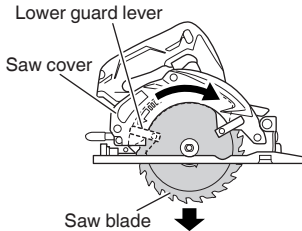

Fig. 28
- (2) Depress the lock lever, lock the spindle, and remove the Hex. bolt and washer (B) with the hex. bar wrench.
- (3) While holding the lower guard lever to keep the lower guard fully retracted into the saw cover, remove the saw blade (Fig. 28).